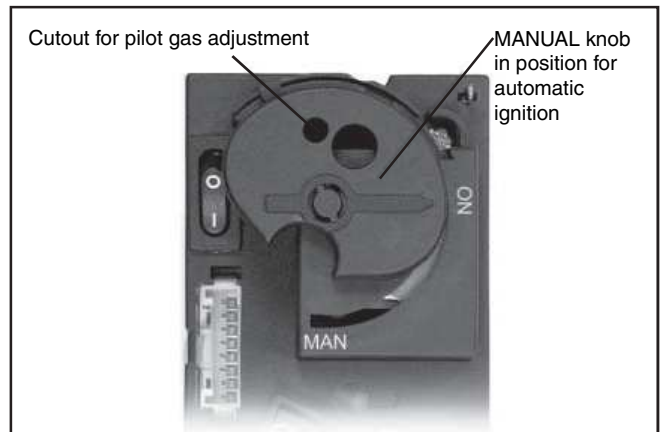

Fig. 3-2 Combination control, view manual knob
- Place ON/OFF switch in **ON** position. See Fig. 3-2.